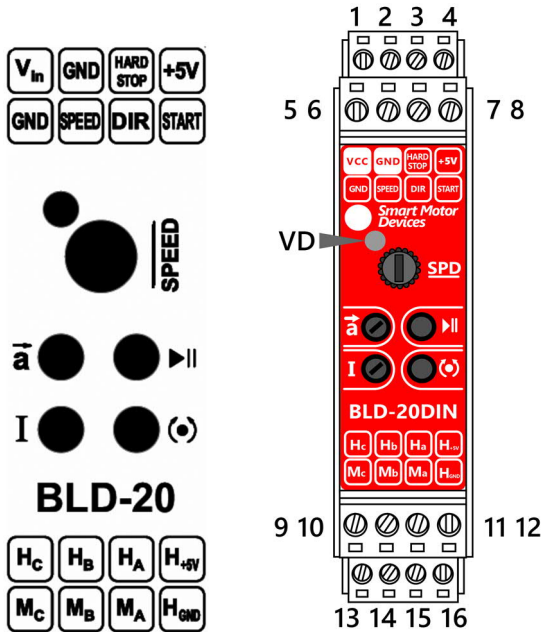

Fig. 2. Layout and assignment of terminals and control elements.
The connection scheme is shown in Fig. 2
Location of terminals and control elements are shown in Fig. 2.
1. Connect a motor to the controller according to Fig. 2 and 3. Motor phases must be connected to terminals 13 – 15. Hall sensor signals must be connected to terminals 9 – 11. GND of HALL sensors must be connected to the terminal 16, supply of HALL sensors signals must be connected to the terminal 12.